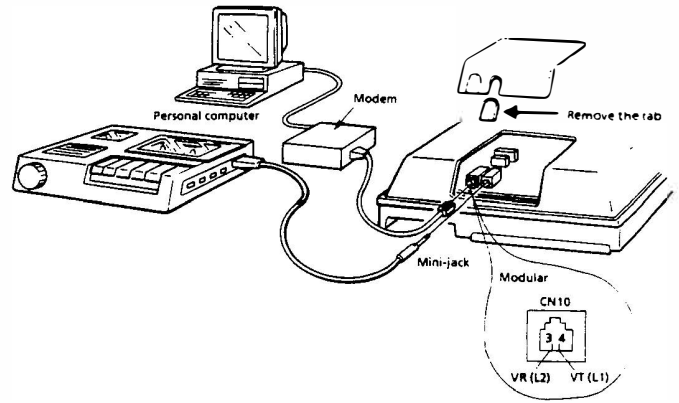

Figure 200-63 Bottom View of ETZ-16D-1 Key Telephone for Jack Locations
9. Plug in the DC power cord connector into the jack located on the bottom of the DSS/BLF Console. Refer to Figure 200-63 Bottom View of ETZ-16D-1 Key Telephone for Jack Locations.
2. Connect the mini-jack of the recording device to CN11 or connect the modular connector of the modem to CN10, as shown in Figure 200-63 Bottom View of the ETZ-16D-1 Key Telephone for Jack Locations.